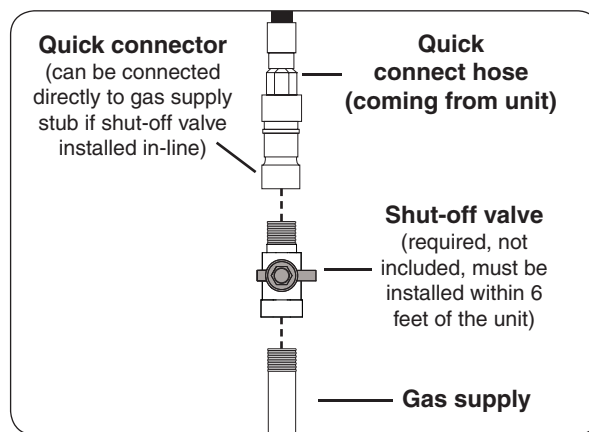

Fig. 16-2 Connecting to a gas line
- 2. A shut-off valve is required within 6 feet of the unit.** Connect the quick connect hose to the shut-off valve OR gas supply using a pipe joint compound resistant to all gasses (see Fig. 16-2). Tighten securely.